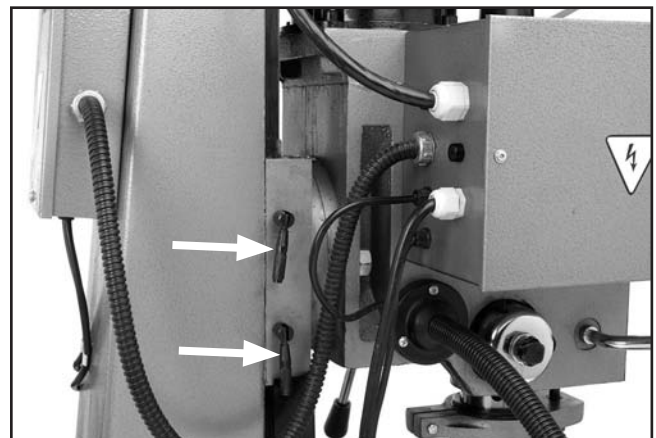

Figure 18. Headstock lock levers.
4. Unlock the headstock levers (**Figure 18**), and use the lift motor to position the headstock close to the workpiece.